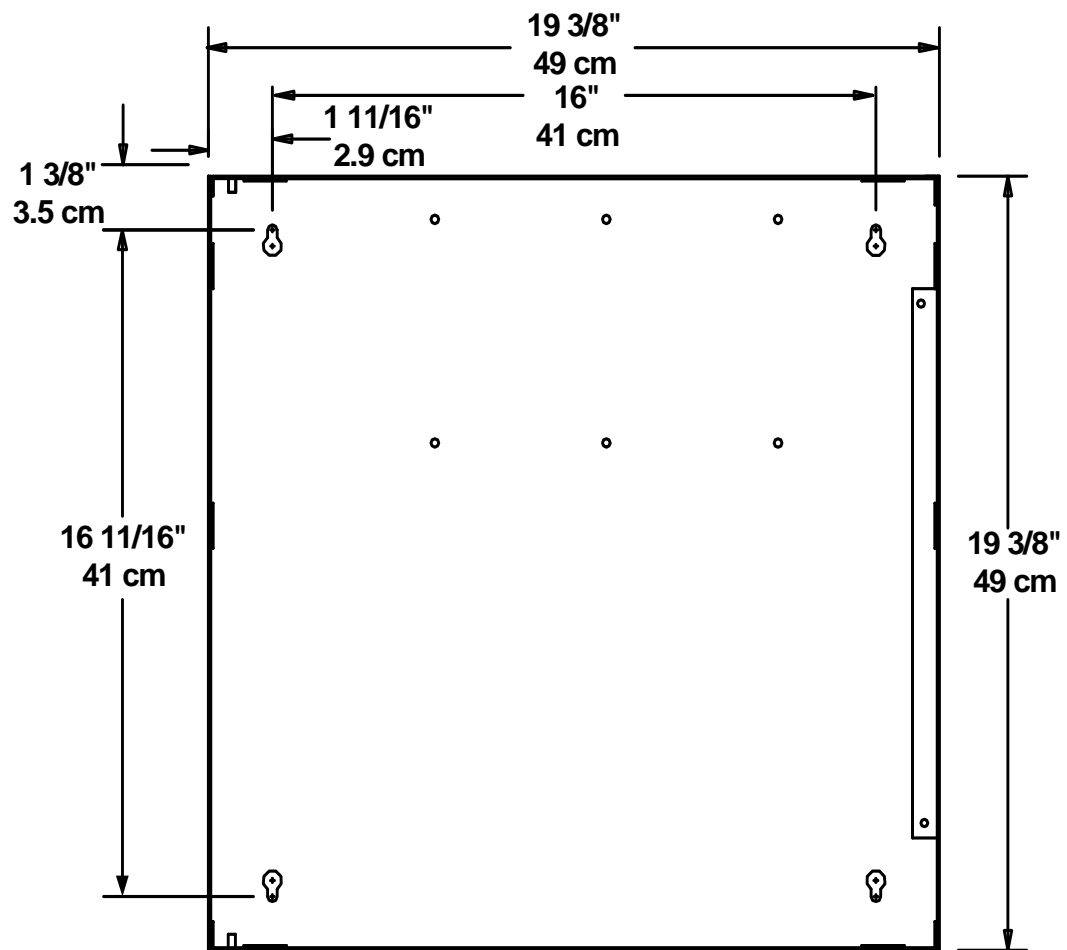

Figure 2.5.1 INCC-E Backbox Dimensions
1. Prepare the mounting site by pre-drilling for fasteners as needed using the dimensions shown in Figure 2.5.1. Mounting hardware should be #10 to ¼" in diameter. Fasteners must be anchored into solid materials unless backed by studs or equivalent support.
Figure 2.5.1 illustrates the INCC-E backbox dimensions.